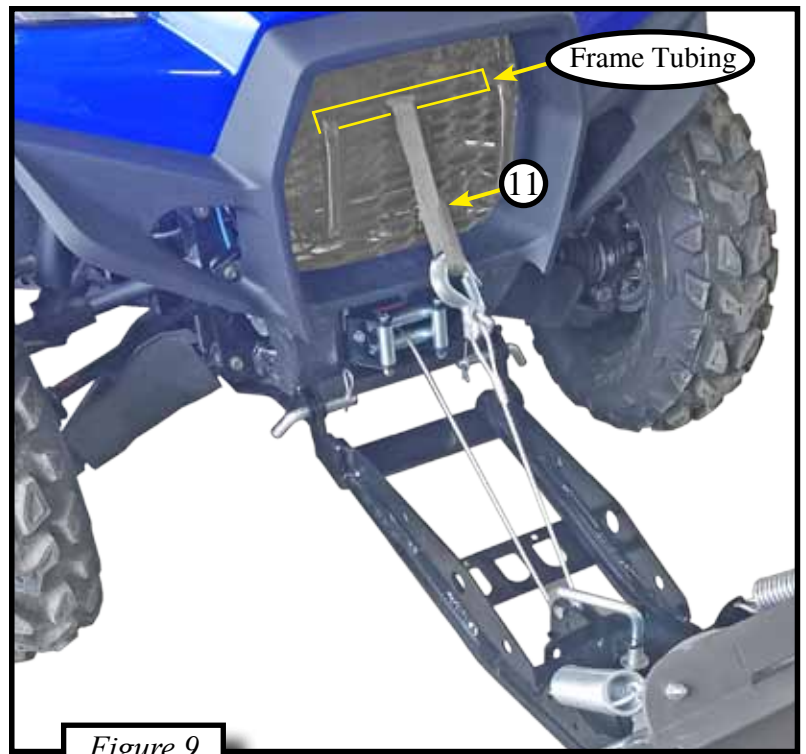

Figure 9
5. Attach the soft loop strap (11) to the horizontal frame tubing behind the front grill. Shown in Figures 9 & 10.